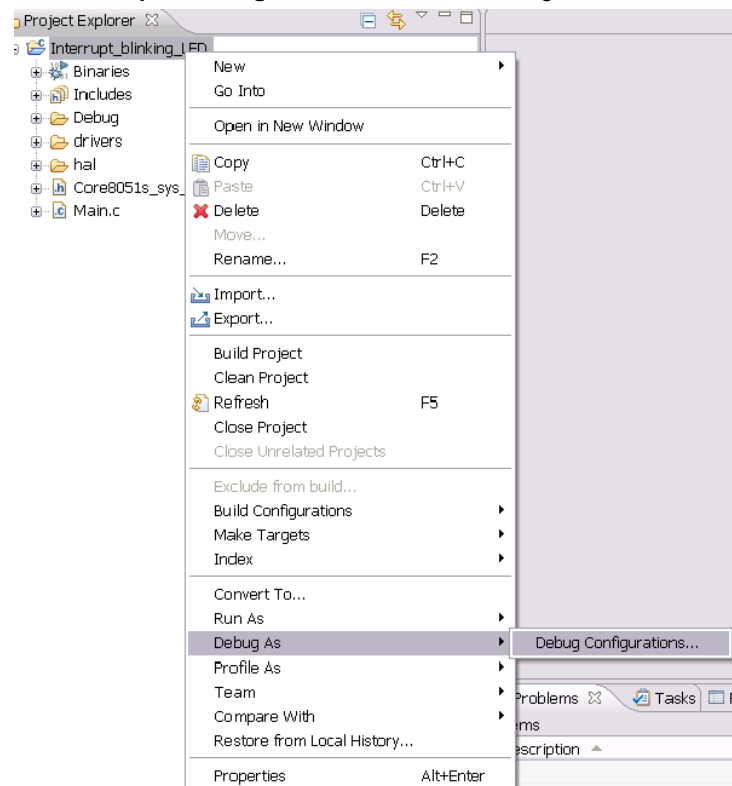

Figure 47 Selecting Debug Configurations
1. Right-click **Interrupt_blinking_LED** and Launch a debug session, as shown in Figure 47.